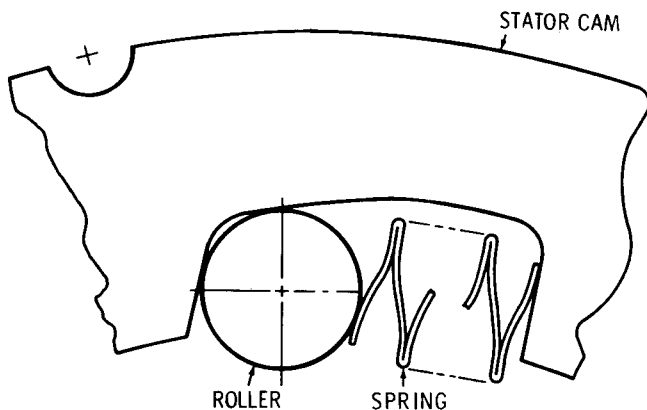

Fig. 6-5. Spring and roller installed in stator cam —view at rear
(2) Coat the cam pockets in the stator with oil-soluble grease. Install rollers 10 (A, foldout 6) into the shallow ends of the cam pockets. Install springs 11 into the deep ends of the pockets with one open end (next to roller) toward the inside diameter of the stator (fig. 6-5).
(3) Install freewheel roller race 12 (A, foldout 6), shouldered end first, into the stator